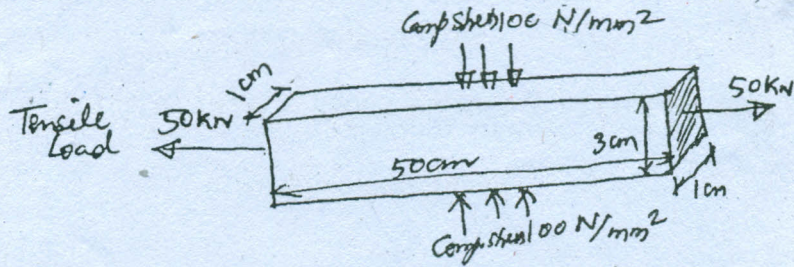

fig. Q. 11(b)(i)
- (b) (i) Find the strain energy stored in a steel bar 50 cm long and 3 cm × 1 cm in cross-section, shown in fig. Q. 11(b)(i) when it is subjected simultaneously to an axial pull of 50 kN and compressive stress of 100 N/mm² on its narrow edge. (8)